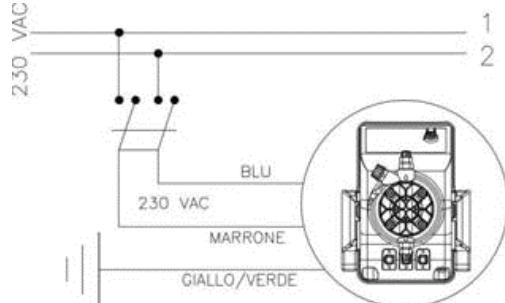

Fig. 4
1. Disconnect the pins from the mains or by means of a two poles switch with 3 mm minimum distance between the contacts. (Fig. 4).
b. - Carefully observe the regulations in force in the various countries as regards electrical installations (Fig. 4). When the supply cable is devoid of a plug, the equipment should be connected to the supply mains by means of a single-pole circuit breaker having a minimum distance of 3 mm between the contacts. Before accessing any of the electrical parts, make sure that all the supply circuits are open.